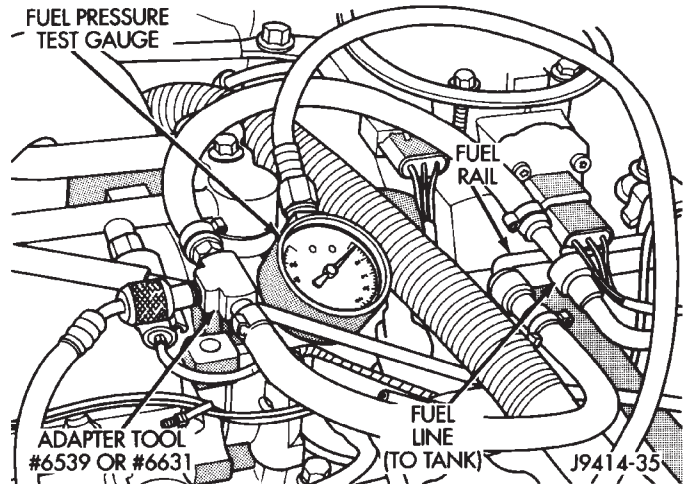
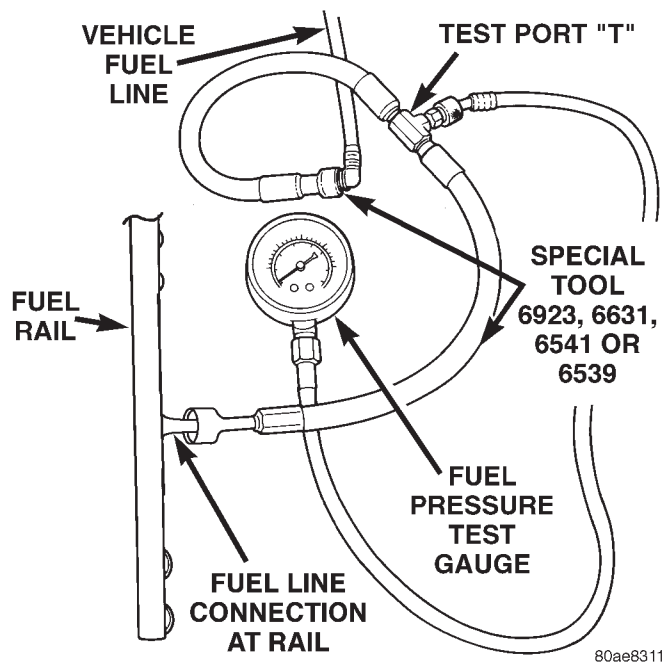

Fig. 8 Connecting Adapter Tool—Typical
Fig. 9 Connecting Adapter Tool—Typical
(1) Disconnect the fuel inlet line at fuel rail. Refer to Fuel Tubes/Lines/Hoses and Clamps in this section of the group for procedures. On some engines, air cleaner housing removal may be necessary before fuel line disconnection.
(2) Connect the appropriate Fuel Line Pressure Test Adapter Tool (number 6539, 6631, 6541 or 6923) between the disconnected fuel line and fuel rail (Fig. 8) or (Fig. 9).
(3) Connect the 0-414 kPa (0-60 psi) fuel pressure test gauge (from Gauge Set 5069) to the test port on the appropriate Adapter Tool. **The fittings on both tools must be in good condition and free from any small leaks before performing the proceeding test.**
(4) Start engine and bring to normal operating temperature.
(5) Observe test gauge. Normal operating pressure should be 339 kPa \pm 34 kPa (49.2 psi \pm 5 psi).
(6) Shut engine off.
(7) Pressure should not fall below **30 psi for five minutes.**